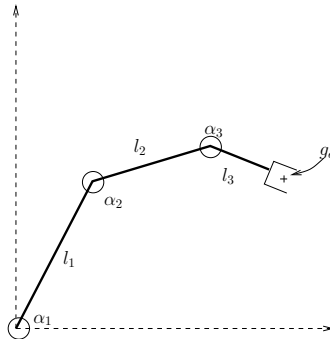

Figure 1: 3R Planar manipulator.
**Problem 1.** (20 pts) Consider the three-link planar manipulator discussed in class and depicted in Figure 1. Modify the `scara_r2.m` code so that it can plot the reachable workspace and the complete workspace for the system. Also plot in the plane the dextrous workspace limits (inner and outer rings); it can be the same plot, or on another one. Call it `planar_r3.m`. Let the link lengths be 1.5, 1.0, and 0.3 inches from base to end-effector, respectively.